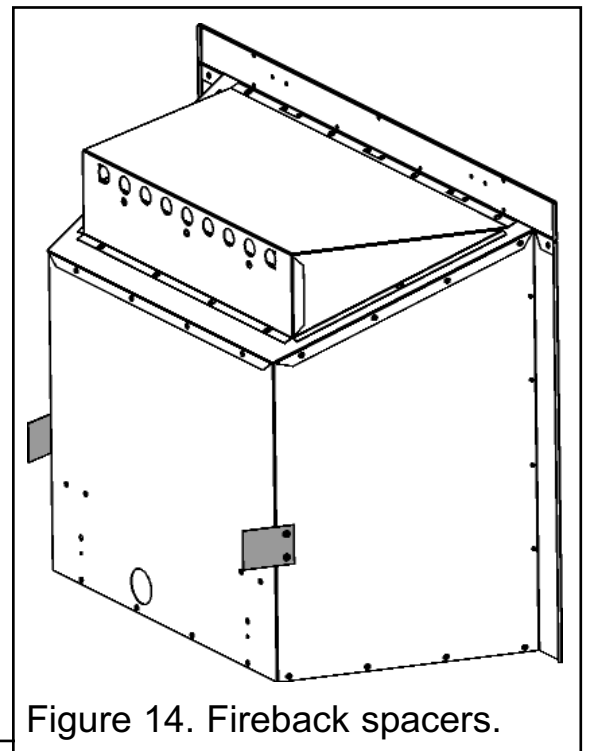

Figure 14. Fireback spacers.
4. The appliance is supplied with two fireback spacers that must be fitted in all installations. These should extend backwards to ensure sufficient clearance from the back of the fireplace. Position the fireback spacer as shown in figure 14. Secure the fireback spacers using four No.8 x 3/8" tapping screws supplied with the fire.